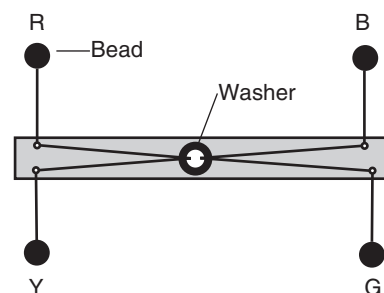

Figure 1.
1. Loop the cords through a washer as shown in Figure 1. Place the washer in the middle of the tube.
2. Pull the ends of the cords through the holes of the tube (see Figure 1).
3. Pull the ends of the cords through the holes of the wooden beads and tie a knot at the end of the cords to hold the beads in place. Use the red bead in the upper left position, the yellow bead in the lower left position, the blue bead in the upper right position and the green bead in the lower right position (see Figure 1).